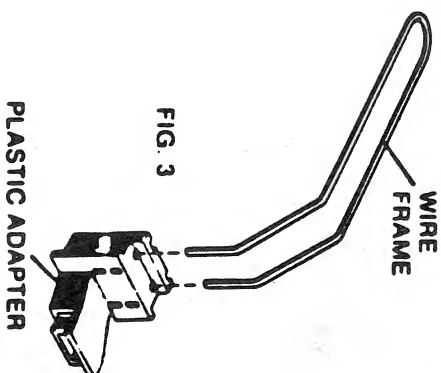

FIG. 3
2. Insert the wire frame into the two holes in the plastic adapter. (Fig. 3)